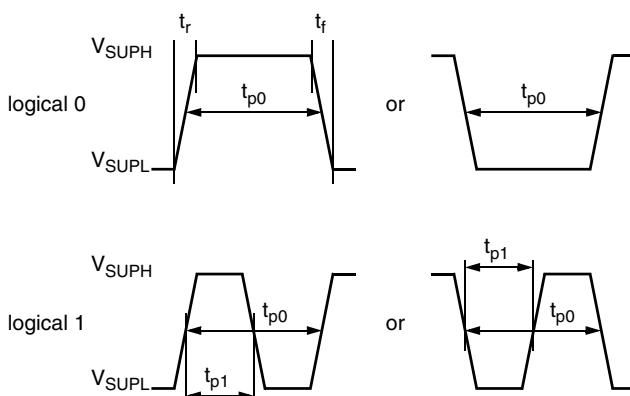

Fig. 6–1: Definition of logical 0 and 1 bit
- Write a register (see Fig. 6–2)
- Read a register (see Fig. 6–3)
- Programming the EEPROM cells (see Fig. 6–4)
- Activate a sensor (see Fig. 6–5)